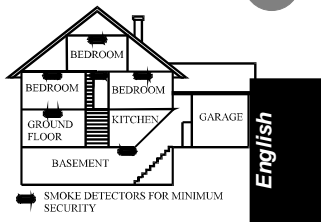

Figure 3: Location for placing smoke detectors for a multi-floor residence
- E** Install a smoke detector on every floor of a multi-floor home or apartment, as shown in Figure 3.